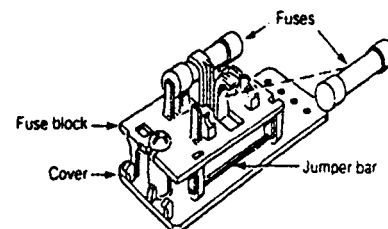

Figure 2.4 - European fuse
- 2.2.2 In **Europe** and other locations where the AC supply voltage is 220 - 240V/50Hz, there are two fuses - one on Line and one on Neutral. Either of these fuses should be replaced only with a Type GDB, 5mm x 20mm, Quick-Acting (F), Low-Breaking Capacity, 250 Volt, .50 Amp fuse as per Figure 2.4 below.